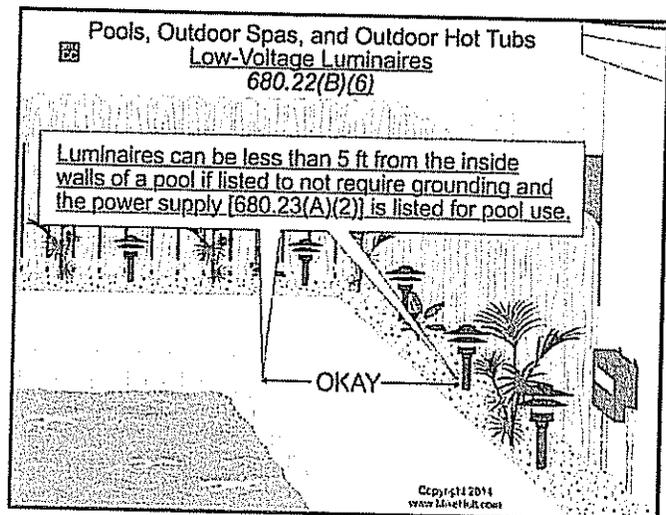

Figure 680-27
(6) **Low-Voltage Luminaires.** Listed luminaires that don't require grounding, and that meet the low-voltage contact limit, can be less than 5 ft from the inside walls of the pool. Figure 680-27